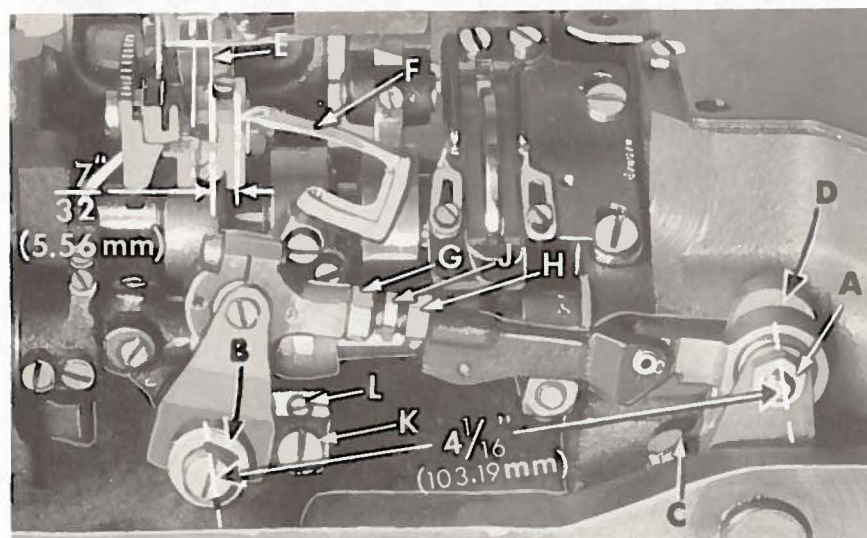

Fig. 6
With the looper at the extreme right end of its travel, check the location of the centerline of the right looper connecting rod bearing, using gauge No. 21227 CX. Remove nut (A, Fig. 6) and place hole in gauge over threaded stud. The left end of the gauge should locate against the right side of the looper rocker cone (B). If adjustment is necessary, loosen the clamp screw (C, Fig. 6) and reposition the looper drive lever (D) as required. Tighten clamp screw. If gauge is not available, setting can be checked with a scale. The distance between the centerline of the looper rocker cone and the centerline of the looper lever stud should be 4 1/16 inches (103.19 mm) (Fig. 6), when looper is at the extreme right end of its travel. Refer to "NOTE" in above paragraph.
Insert a new set of needles, type and size as specified. Also insert front looper. The distance from the center of the right needle (E, Fig. 6) to the point of the front looper (F) should be $7/32$ inch (5.56 mm) when the looper is at its farthest position to the right. Looper gauge No. 21225- $7/32$ can be used advantageously to check this setting. If adjustment is required, loosen nut (G, Fig. 6) (it has a left hand thread) and nut (H) on connecting rod (J), turn the connecting rod forward or backward to obtain the $7/32$ inch (5.56 mm) dimension. Retighten both nuts, first nut (H) and then nut (G). Make sure the left ball joint is in vertical position and does not bind after adjustment.
If adjustment is necessary, loosen lock screw (K, Fig. 6) and turn stop screw (L) as required. Turning stop screw clockwise sets the loopers to the rear and turning it counterclockwise acts the reverse. Holding the loopers to the front while making this adjustment may prove helpful. Tighten lock screw securely after setting is obtained and recheck the adjustment. Insert back looper and obtain the same needle-looper relationship. A minute adjustment of looper-needle relationship can be accomplished by applying pressure on the loopers at front or back of the blade, while clamping loopers in looper rocker, so as to get the proper in-line-of-feed setting.